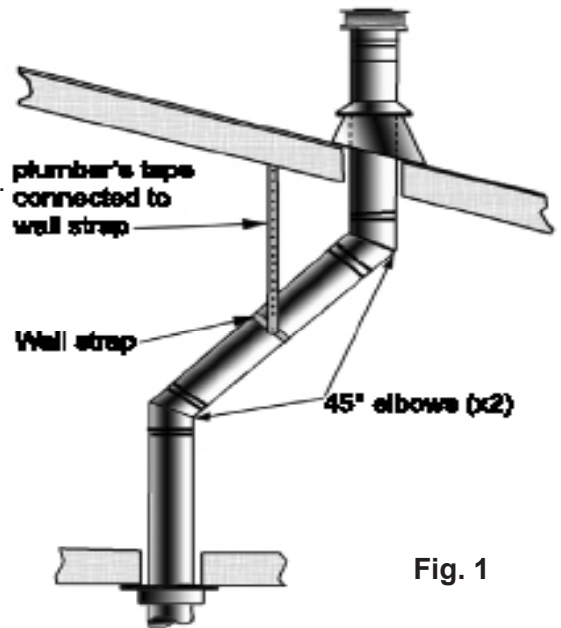

Fig. 1
- If an offset is necessary in the attic to avoid obstructions, it is important to support the vent pipe every 3 ft (914 mm) to avoid excessive stress and possible separation on the elbows. Use wall straps as needed (Fig. 1).